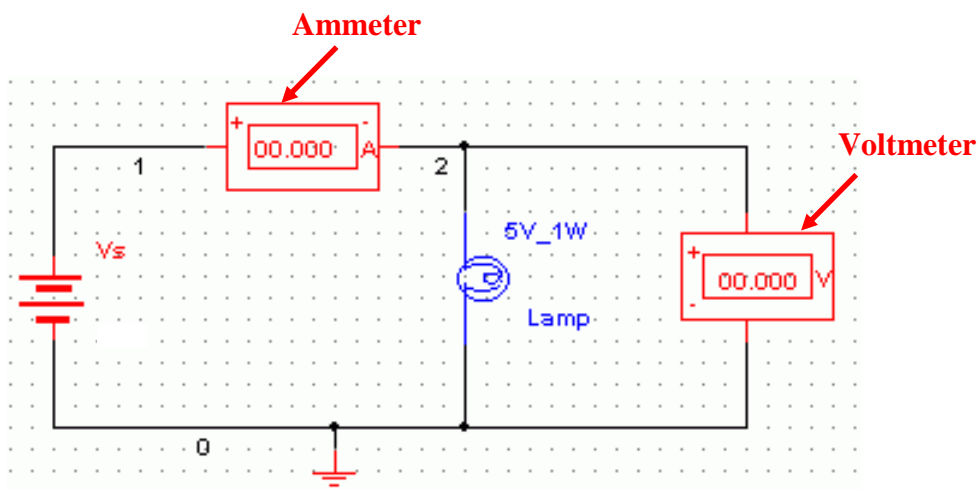

Figure 1: Measuring current and voltage: a lamp connected across a battery
1. Construct the circuit shown in Fig. 1 on the *Multisim Electronics Workbench*. Use a 5V, 1W lamp for simulation. (In the **Components Toolbar** select the **Indicator** icon; now find **Voltmeter**, **Ammeter** and **Lamp** in this window).